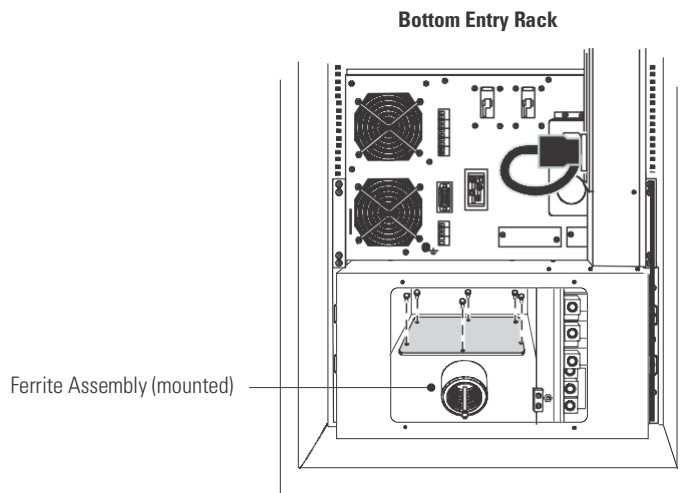

Figure 22. Removing the Conduit Landing Plate
3. Remove the six screws on the conduit landing plate and retain. Remove the plate and retain. See Figure 22.